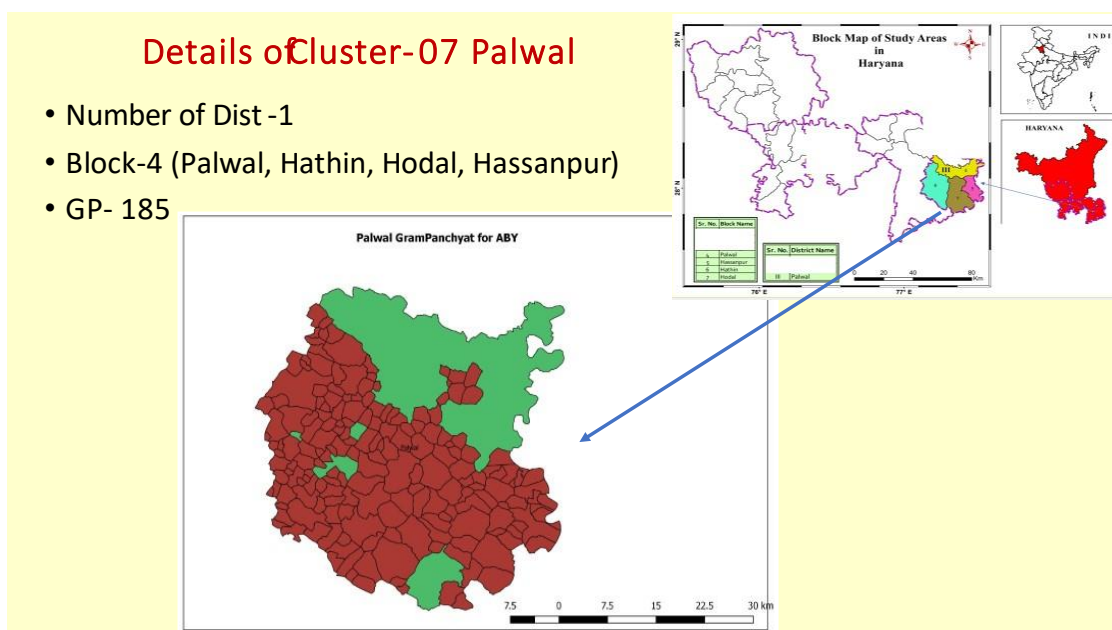

Fig 1.1 Location map of cluster 07 (Palwal)
For Atal Bhujal Yojana, Haryana has been divided into 9 clusters and for these clusters 5 DIPs were engaged. Centre for Advance Water Technology and Management, Manav Rachna International Institute of Research and Studies (MRIIRS) through tender has been selected as District Implementation Partner (DIP) under Atal Bhujal Yojana (ABY) for cluster 07 (Palwal) and letter of LOA has been issued vide LOA No. ABY/2122/27W/957-961 dated 04.08.2021 and same was accepted and signed on 11.08.2021 for Atal Bhujal Yojana. The ABY project duration is for 48 months and performance security for the same as per clause 19.3 for amount of Rs. 1451880 has been deposited. Cluster 07 includes Palwal (41), Hathin (75), Hodal (34) and Hassanpur (35) blocks incorporating 185 Gram Panchayat (Table 1.1). Palwal district is located within NCR in the South eastern part of Haryana (Fig 1.1).